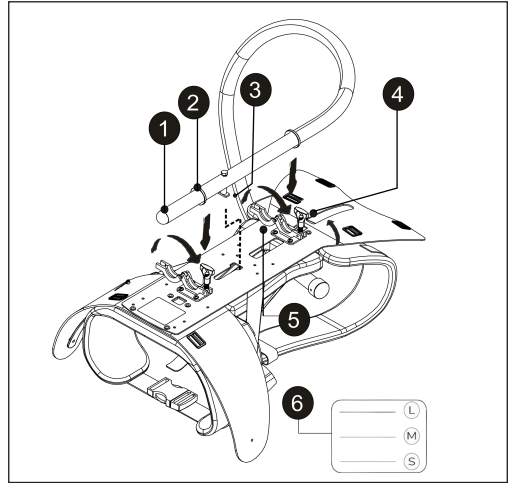
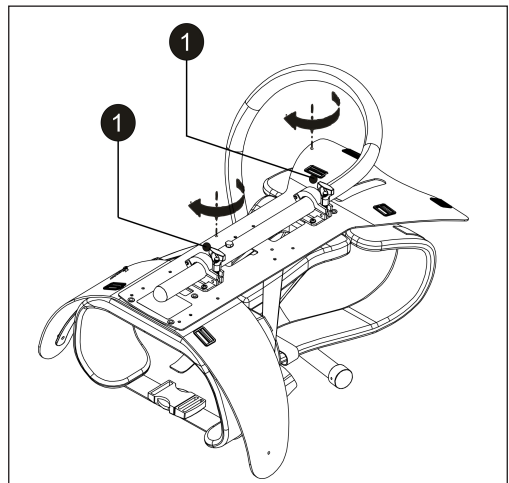

Figure 4
Figure 5
2. Place the lower part of the support tube (Figure 4, pos. 1) in the opened mounting clamps (Figure 4, pos. 5), with the safety hook (Figure 4, pos. 3) in the opening of the harness.
3. Push the tube to the desired working height: Large, Medium or Small (Figure 4, pos. 6).
4. Make sure to put the rubber rings (Figure 4, pos. 2) into the mounting clamps.
5. Close the mounting clamps (Figure 4, pos. 4) and tighten the fasteners (Figure 5, pos. 1).